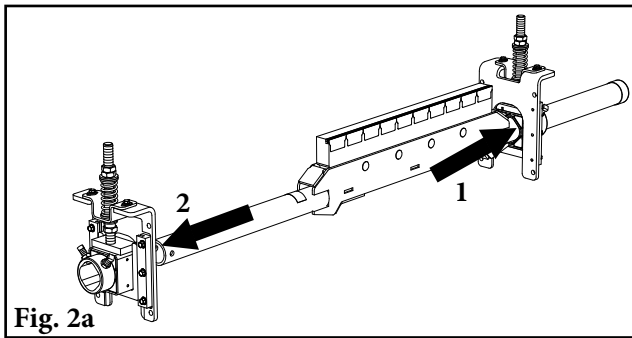
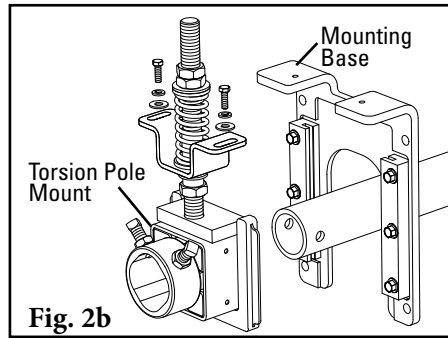

Fig. 2a
Fig. 2b
2. **Install the pole.** Slide the pole into one torsion pole mount as far as needed and locate the other end into the opposite mount (Fig. 2a). If there is not enough space, remove one of the torsion pole mounts from the mounting base, slide the pole through the mounting base and reassemble (Fig. 2b).